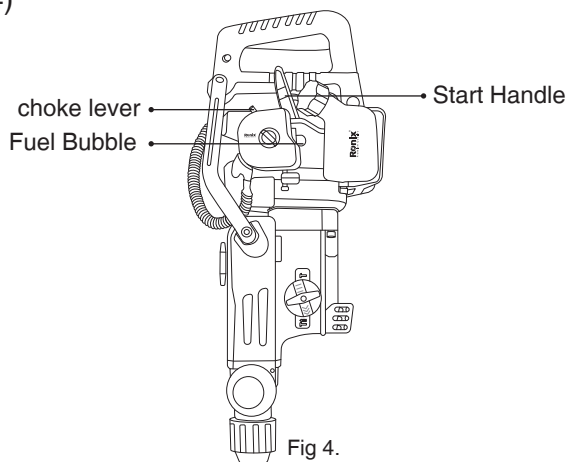

Fig 4.
- 1- Before starting the new machine. Repeatedly press the priming bulb (transparent semicircular fuel oil bubble) (Figure 4) to the status of full of fuel, fill the carburetor with fuel.
(See Figure 4)